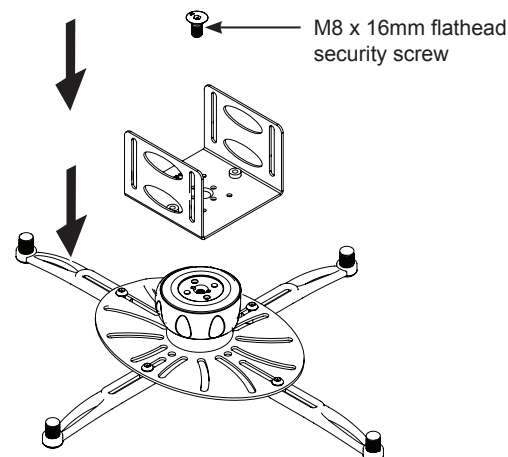

Figure 3
- 2 Following the “B” mounting-hole pattern (Figure 1), use one (1) M8 x 16mm flathead security screw to attach the SpiroLock™ projector mount to the lower half of the mounting assembly (Figure 3). Do not overtighten.